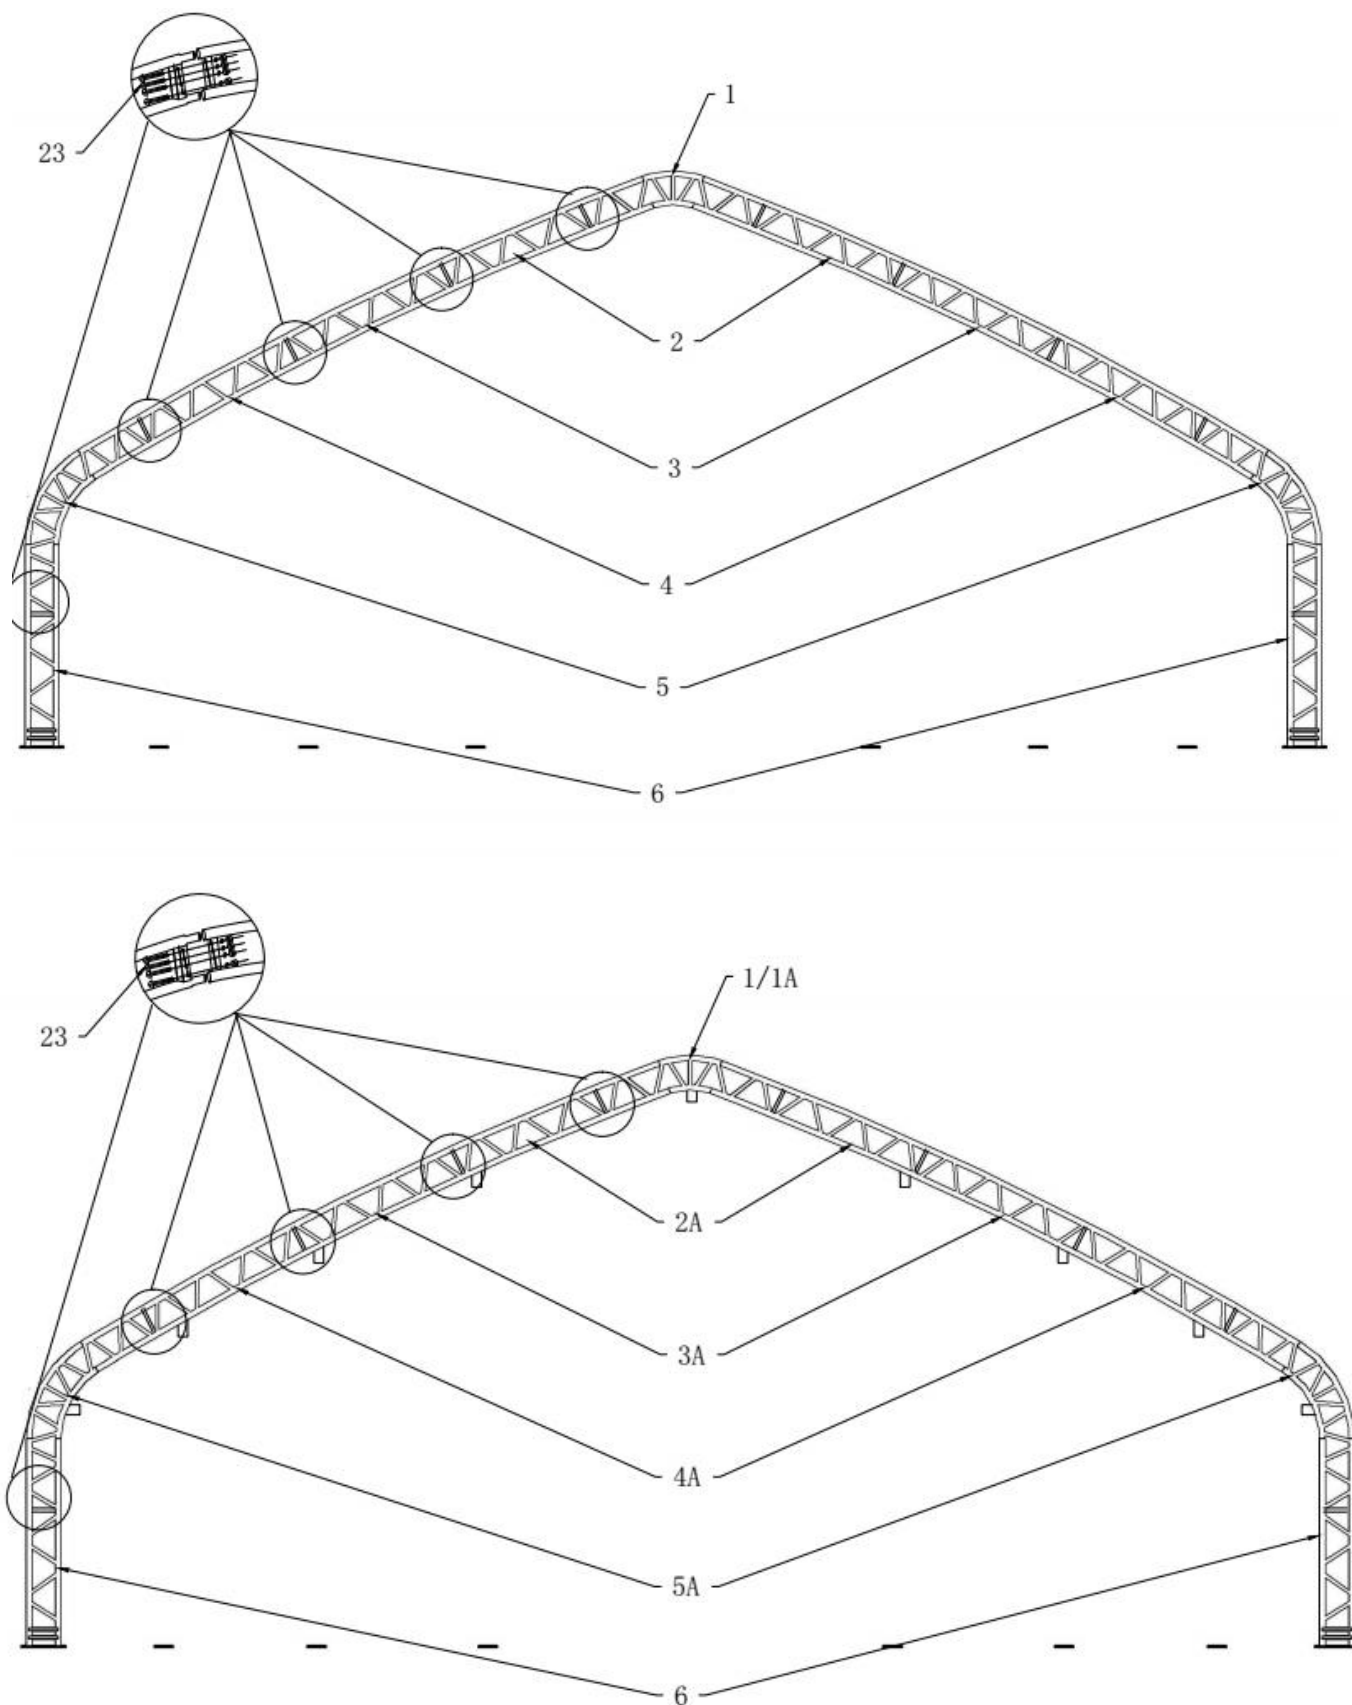

Figure 3
1. Figure 3 shows to connect the Top roof tube(No.1/No.1A),Upper curving tube(No.2/No.2A),Middle curving tube(No.3/No.3A), Lower curving tube(No.4/No.4A) ,Sidewall curving tube (No.5/No.5A)and Standing leg(No.6) with Bolt M12x50(No.23),which makes in one arch, then put the arch into tube of Base plate by Hoist, and assemble every group of arch by turns.(see Figure 3).